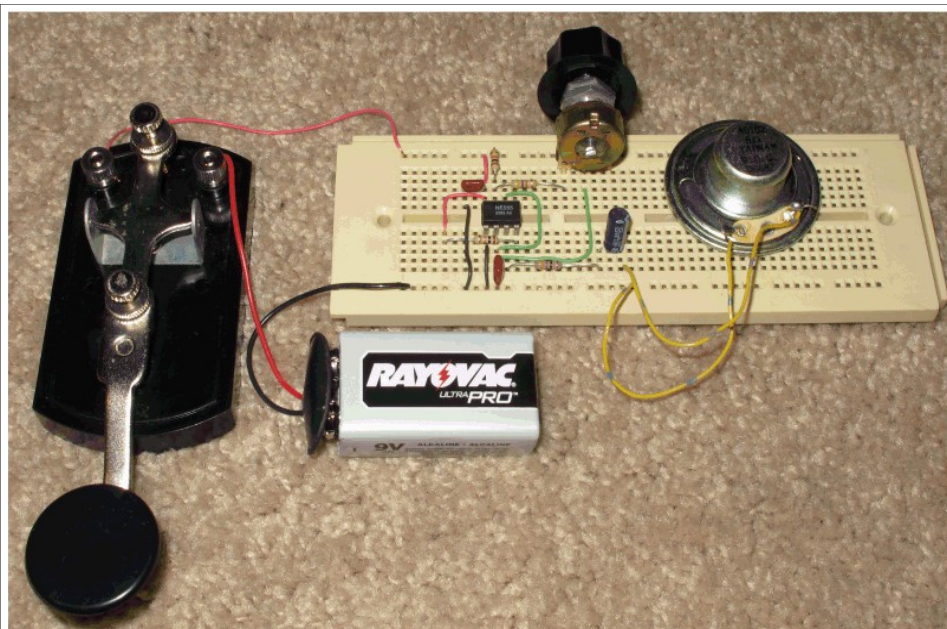

Figure 1: A Simple Code Practice Oscillator
Figure 1 illustrates a code practice oscillator set that you can build in just a few hours. It consists of a telegraph key and a simple oscillator circuit based on the LM555 timer integrated circuit (IC). It's powered by a standard nine-volt battery, which will probably last for years. If you don't have a telegraph key, it's easy to build a substitute.